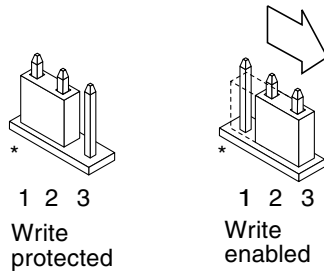

FIGURE 4-3 Setting the Write-Protect/Enable Jumper to the Write-Enable Position
- Set the J2003 write-protect/enable jumper to pins 2 and 3 (write enabled) using needlenose pliers (see FIGURE 4-3). Pin 1 is noted by an asterisk (*).